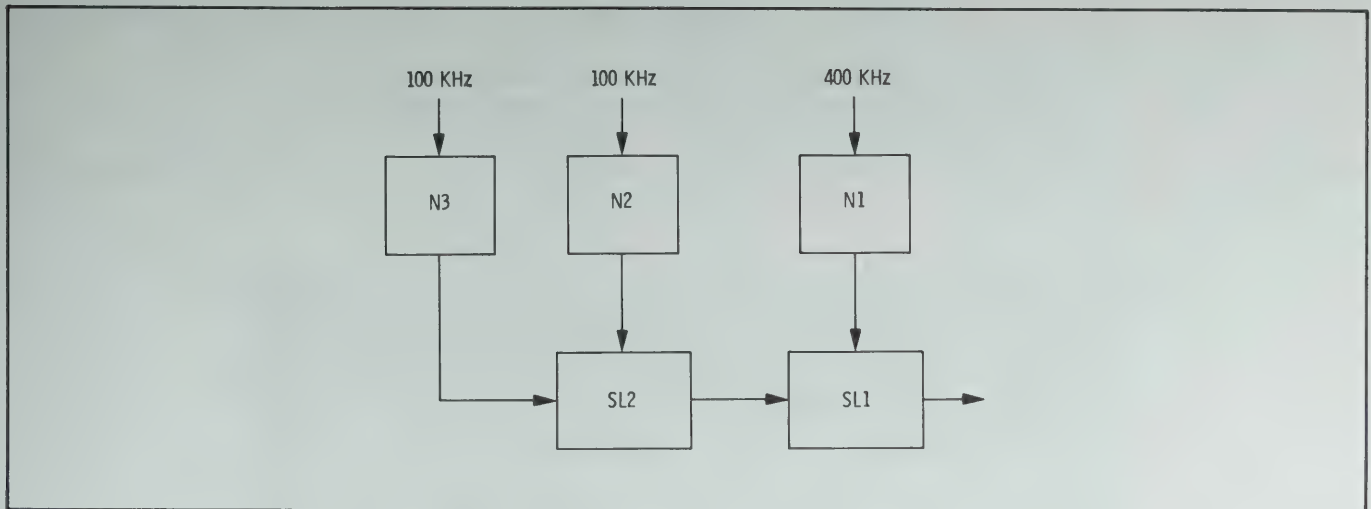

Figure 5-2. Low Frequency Loops Signal Flow
- 5-7. If the SL1 output is malfunctioning, considerable insight into the location of the failure may be gained by noting which digits of the output frequency are incorrect. Four phase lock loops are involved in feeding signals to Sum Loop 1. The following table lists the digits controlled by each of the four loops. (Digit 1 is defined here as the digit which controls one hertz steps; the least significant digit). See Table 5-2 and Figure 5-2. Continue to paragraph 5-8 for troubleshooting.